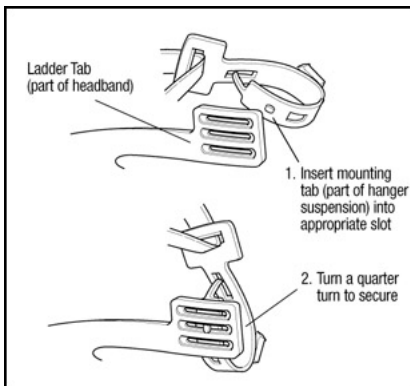

Fig. 5: Installing the Hanger Suspension to the Headband
- Snap the four hanger mounting tabs on the suspension subassembly all the way into the appropriate slots in the ladder. See also “Adjusting the Headgear Position on Your Head” to select the proper slots (Fig. 5 and Fig. 7). Turn the tabs a quarter-turn to secure.
- Re-adjust the position of the headgear and the suspension size as necessary (Fig. 5 and 7)
The four hanger mounting tabs of the hanger suspension snap into numbered slots in the headband's "ladder" (Fig. 5 and 7a through 7d). By selecting one of nine possible combinations, the user can adjust the position of the headgear/shield assembly. Hanger suspension adjustments can be made for improved vision and comfort. Turn the hanger mounting tabs a quarter-turn to insert them into the slots. For stability, the headgear should fit as low on the back of your head as is comfortable.